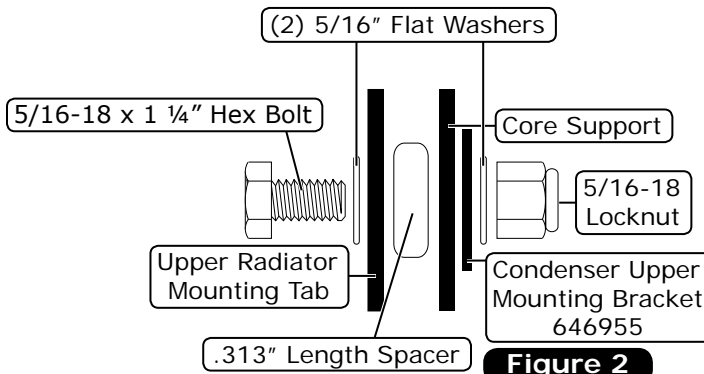

Figure 2
3. Replace the upper radiator mounting bolts with (2) 5/16-18 x 1 1/4" hex bolts and (2) 5/16" flat washers, and install (2) .313" length spacers between the radiator and the core support as shown in Photo 4 and Figure 2, below.
4. Install the condenser in front of the radiator, bottom first, locating the lower mounting bracket behind the grille mounting bracket. Then install the condenser upper mounting bracket over the (2) 5/16-18 x 1 1/4" hex bolts. Secure the condenser assembly to the radiator and core support using (2) 5/16" flat washers and (2) 5/16" locknuts as shown in Photo 5 and Figure 2, below. **NOTE: Use caution during this step to prevent damage to the condenser or radiator.**